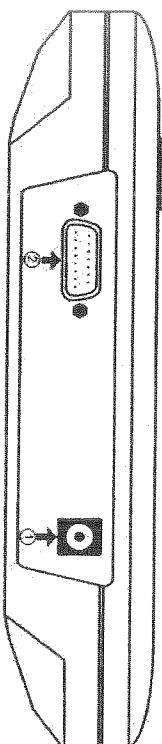

Fig. 1-2: UNO Connectors
This section contains important information concerning the installation and operation of the UNO. The UNO is delivered ready to use. Just install the 4 AA batteries, insert a detector head in the Probe Input Jack (#2 in Figure 1-2) and press the I/O key.
- 3- Turn the UNO off and connect a power detector head to the UNO using the PROBE INPUT JACK (see Fig. 1-2). It is recommended to turn the UNO off before connecting a new head in order to prevent any loss of information from the detector head's EEPROM.